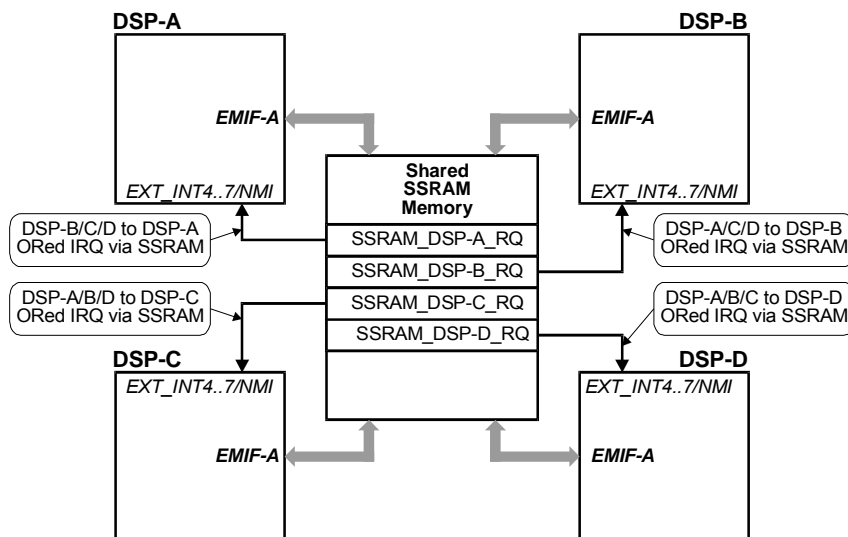

Fig.2-4c. On-board DSP-to-DSP communication topology via SSRAM DSP-to-DSP interrupt requests for *TORNADO-PX64xxQ* DSP Coprocessor DCM.
- DSP-to-DSP communication via ORed interrupt requests via shared SSRAM (fig.2-4c), which are typically used to set attention event to particular DSP along with data message passing. ORed interrupt requests via SSRAM can be generated to any particular on-board DSP as the logical OR of interrupt requests from all DSP neighbours of this DSP. The recipient DSP node will be generally unable to identify the sender DSP node (refer to subsection “DSP-to-DSP communication via ORed interrupt requests via SSRAM” later in this section for more details).
TORNADO-PX64xxQ DSP coprocessor DCM also offers DSP-to-DSP communication via DSP-to-DSP communication via *ORed interrupt requests via shared SSRAM* (fig.2-4c), which are most commonly used to set attention event to particular DSP along with data message passing.